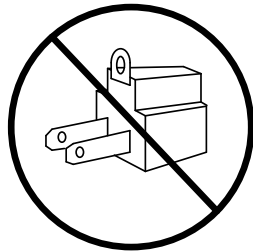

Figure 4
- Do not use an adapter. (See Figure 4 ).